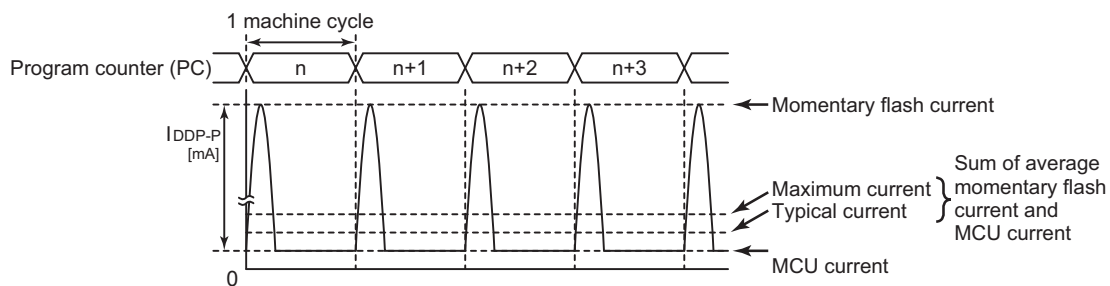

Figure 25-4 Intermittent Operation of Flash Memory
- Note 7: When a program operates in the flash memory or when data is being read from the flash memory, the flash memory operates intermittently, and a peak current flows, as shown in Figure 25-4. In this case, the supply current I_{DD} (in NORMAL1, NORMAL2 and SLOW1 modes) is defined as the sum of the average peak current and MCU current.